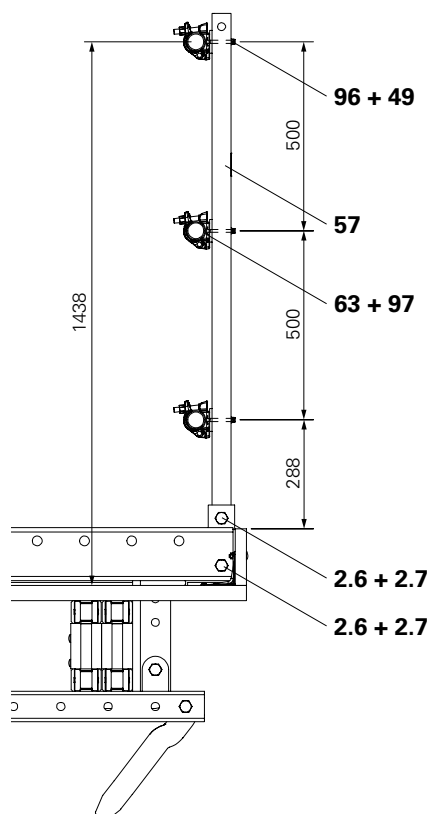

Fig. B1.19b
3. Position Scaffold Tube Steel (**97**) and secure. (Fig. B1.19b)